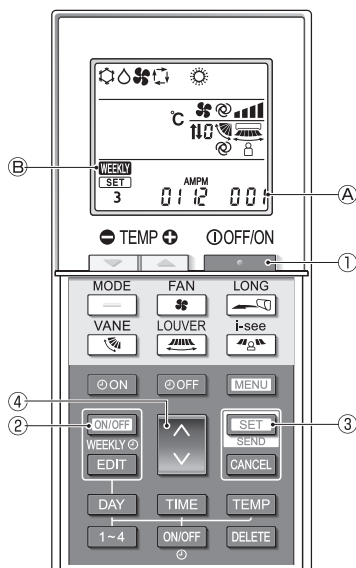
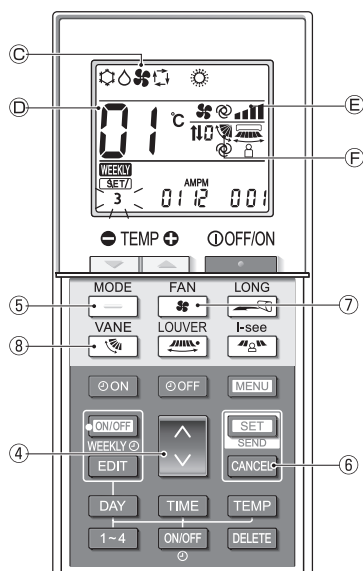

Fig. 4-1
Fig. 4-2
1. Switching to the function setting mode (Fig. 4-1)
- Press the **ON/OFF** button ① to stop the air conditioner.
- If the weekly timer is enabled, press the **WEEKLY** button ② to disable the timer. (**WEEKLY** ② disappears.)
- Press the **SET** button ③ for 5 seconds.
- The remote controller enters the function setting mode. (The group model setting number ④ blinks.)
2. Entering the group model setting number (Fig. 4-1)
- Press the **MODE** button ④.
3. Separate settings mode 1 (Fig. 4-2, Fig. 4-3)